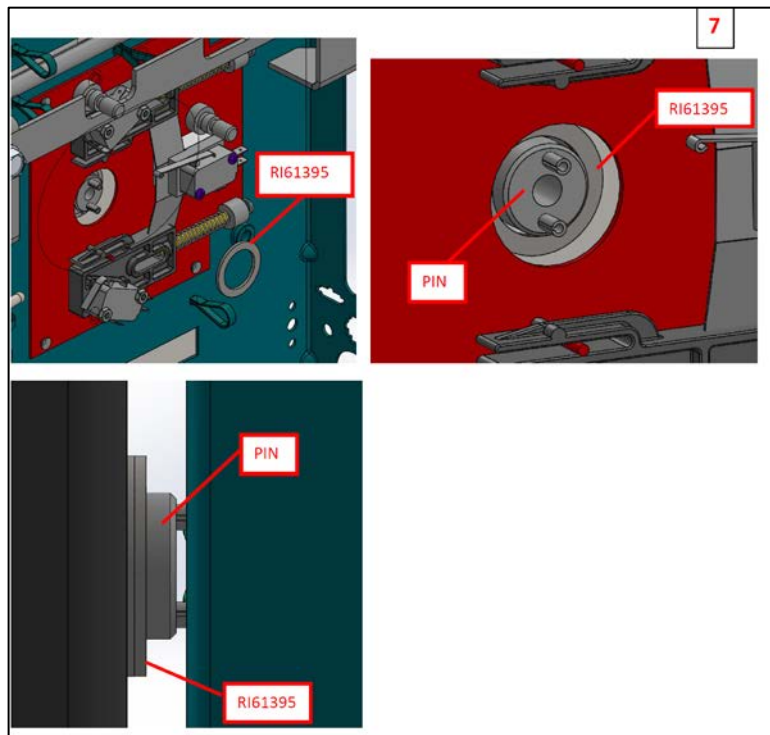

Figure 7: Installation of Spacer and PIN
9. Install the ring from the kit (Ricon kit RI61395) over the PIN, making sure the PIN passes through the ring. See Figure 7.